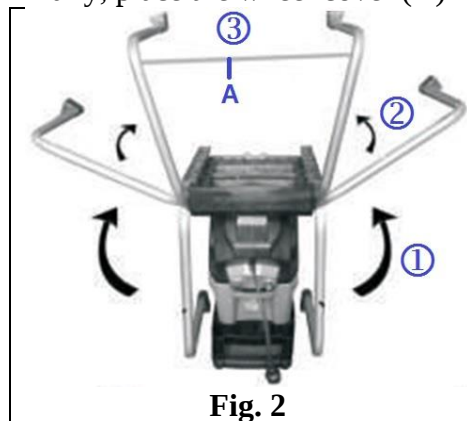

Fig. 2
4.3.1- Tubes (Support Feet, see Fig. 2)